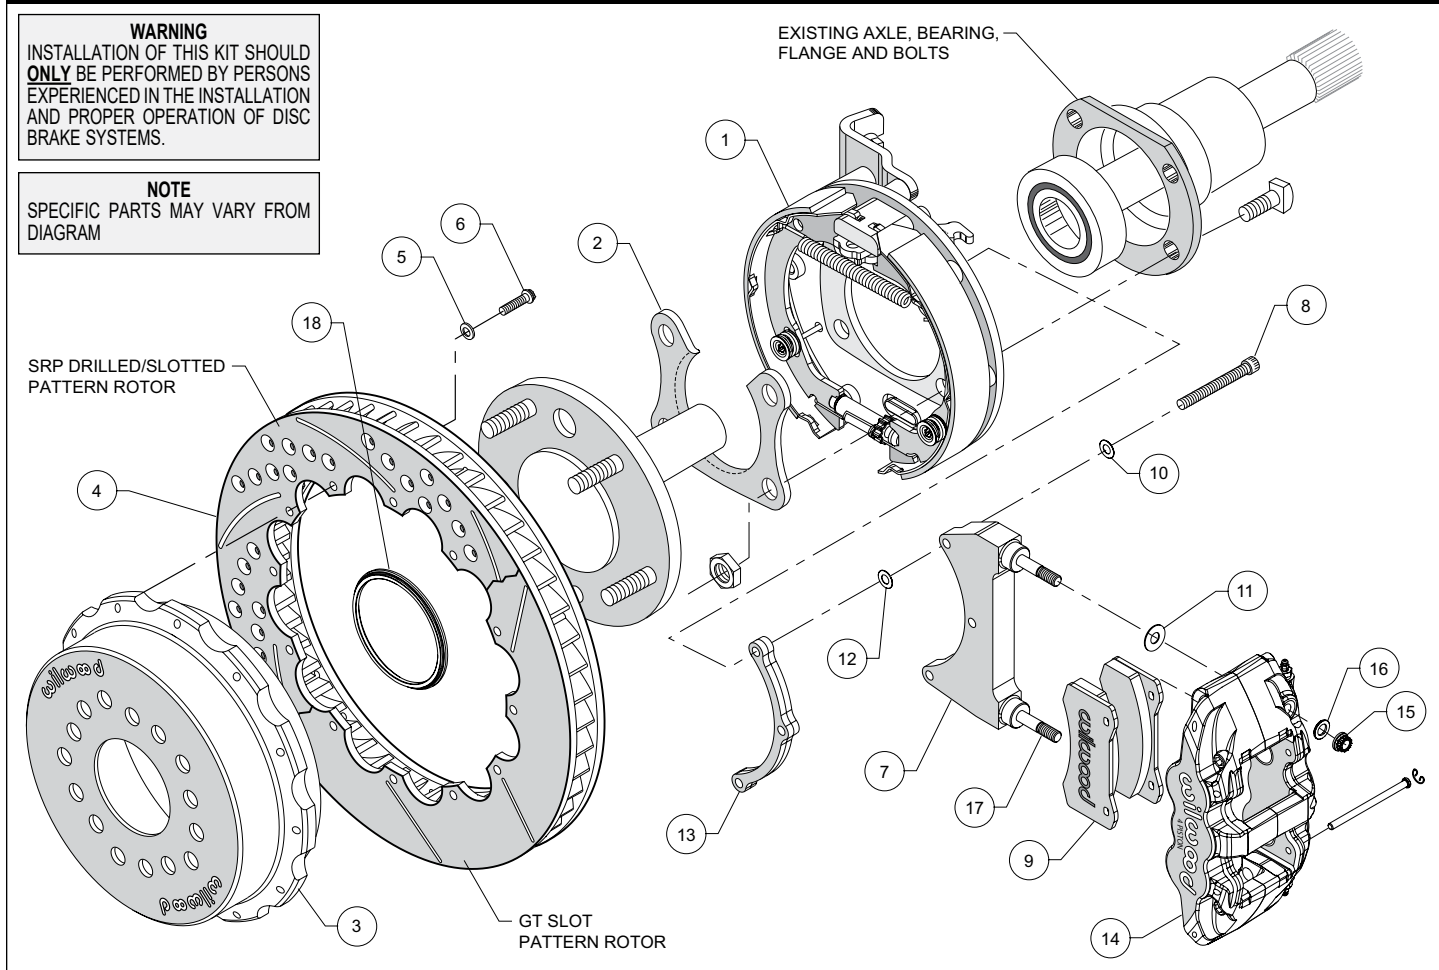

Figure 1. Typical Installation Configuration
- Orient the bracket assembly (1) as shown in Figure 1, and slide it onto the axle flange. Ensure that the bracket assembly backing plate fits flush against the housing flange. Insert the axle shaft into the axle housing.
- Install the bearing retainer (2) with the opening pointing upward and the lip facing inward (toward the bearing), as shown in Figures 1 and 4. Secure using the Original Equipment Manufacturer
(OEM) bolts and nuts, Figure 1. Apply red *Loctite*® 271 to the OEM bolt threads and torque to OEM specifications
- NOTE:** Please reference the caution statement at the beginning of the assembly instructions. The caliper mounting bracket assembly (7) should be installed first with clean, dry threads on the mounting bolts (8). Install the bracket from the rear side of the bracket kit assembly (1) by sliding bolt (8) through flat washer (10), bracket (7), shim washer (12) and finally through the spacer (13), see Figure 1. **NOTE:** End of bolt should not exceed inside face of insert. The bracket must tighten squarely against the back side of the bracket kit assembly (1). Inspect for interference from casting irregularities, machining ridges, burrs, etc. Use one thin shim (12) between the bracket (7) and spacer (13) during initial trial fitting.
- Lubricate caliper mounting studs and nuts with lightweight oil. Install one shim (11) over each pre-installed stud (17) on the radial mount bracket (7). Slide the caliper (14) in place over the studs and rotor, then install the washer (16) and lock nut (15) to hold the caliper in place. The caliper bleed screws should be pointing up. Snug the lock nuts (15) and check that the rotor (4) is centered in the caliper (14). Add or subtract .015" shims (12) as necessary between the caliper mounting bracket (7) and the spacer (13) to center the caliper (14).
- Remove the two pad retaining pins from the caliper (14) by carefully popping out the pin retaining clips and sliding out the pins. Insert the brake pads (9) into the caliper from the bottom, Figure 1. With the friction material facing the rotor, secure the brake pads in place with the pad retaining pins and clips. Reinstall the caliper onto the caliper mounting bracket and temporarily tighten the lock nuts. Check that the top of the brake pad is flush with the outside diameter of the rotor. If not, adjust by adding or subtracting shims (11) between the caliper and the bracket.
- Adjust the parking brake shoes outward (using a drum shoe adjustment tool available at your local auto parts store) while spinning the hat (3) until a slight drag is felt against the hat/drum. Remove the lug nuts that were holding the hat/rotor in place. Install the wheel and lug nuts. Check to see that the wheel rotates freely without interference.
- Once all clearances have been checked, remove the wheel, caliper, hat/rotor from the bracket kit assembly (1). Secure the